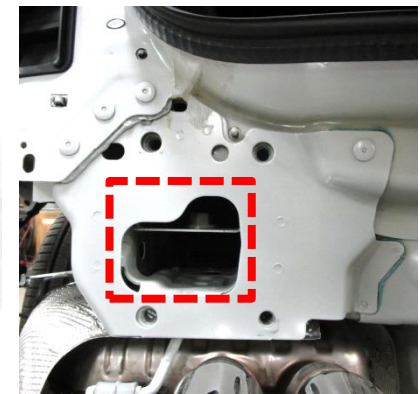

Figure 3
- 4. Hitch installation** - Use silicone sealant to seal around the opening on the end panel each side, see **Figure 3**. Raise the hitch into position and align it with bumper end panel holes. Loosely secure the hitch to the bumper end panel using (8) existing M14 factory bolts removed in Step 3, see **Figure 1**.